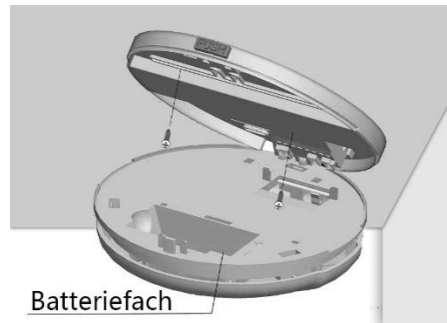

Fig. 6 – Fixing the heat alarm base
9. Attach the bracket to the ceiling with the screws supplied (see Fig. 6).